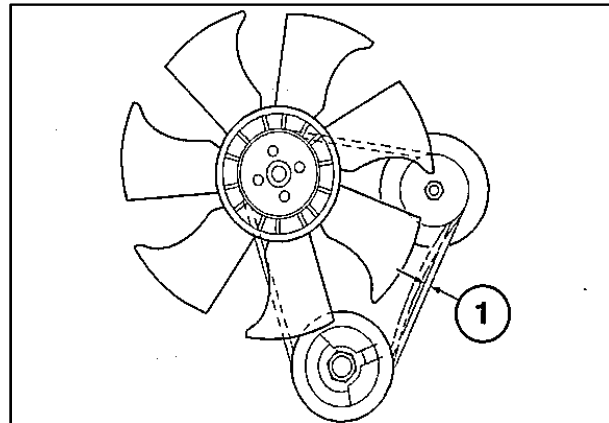

Figure 3-27
When 5 kg of thumb pressure is applied to the belt midway (1) in Figure 3-27, between the belt pulleys, a correctly tightened belt will deflect 5 - 10 mm.